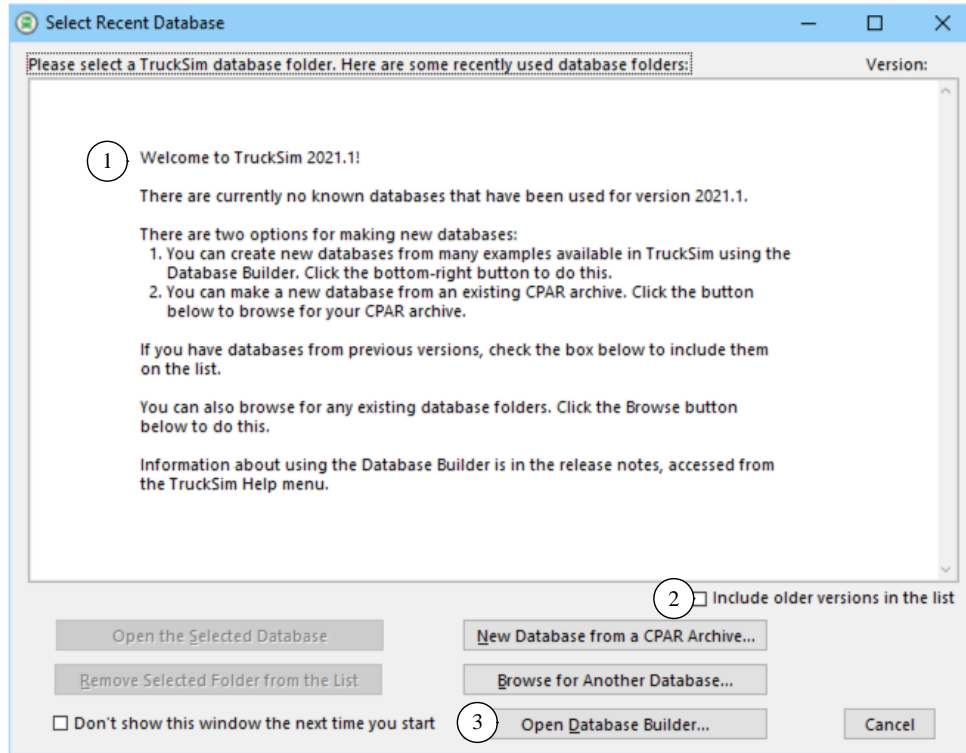
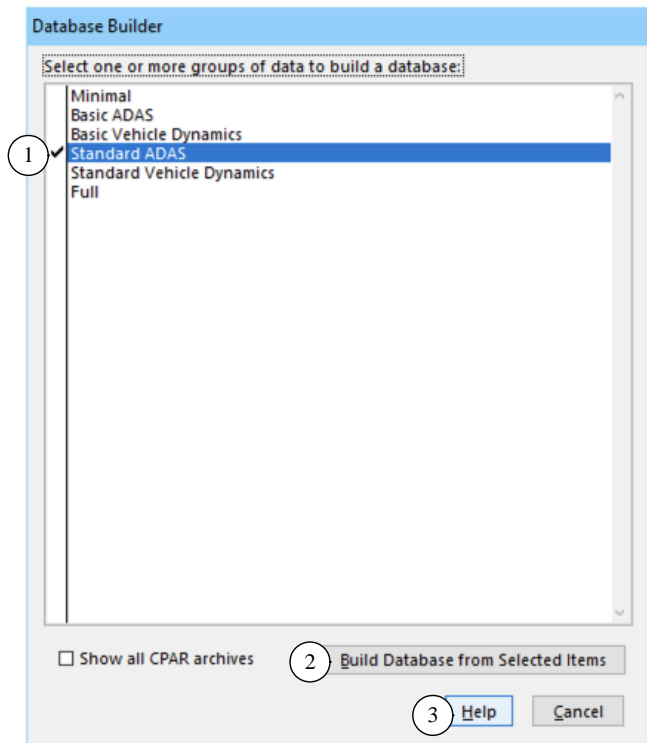
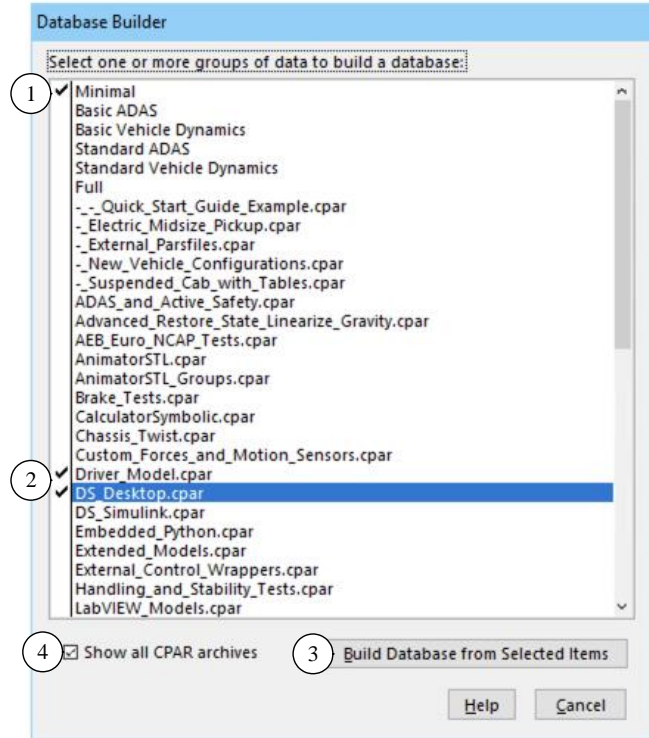

Figure 1. Recent Database window shown when opening a new version of TruckSim.
Figure 2. The database builder window showing only predefined database options.
Figure 4. Display when CPARs are also shown.
When opening recent versions of TruckSim, a window appears listing database folders that are known for the current version. This window (Figure 1) has been extended for 2021.1, providing access to a new tool: the Database Builder.
To access examples for 2021.1 when you start TruckSim, click the button **Open Database Builder** (3) (Figure 1) to bring up the Database Builder window (Figure 2). When a group of data is selected (1), the button **Build Database from Selected Items** (2) becomes active. The **Help** button (3) opens a PDF document that describes the options. (The Help document is also available from the TruckSim **Help** menu in the **Release Notes** submenu.)
**Note** Three of the first four options in the **File** menu correspond directly to three of the buttons in the **Select Recent Database** window (Figure 1).
Figure 2 shows that TruckSim 2021.1 provides six predefined databases. Table 2 provides a little more information about these options.
None of the six basic options shown in Figure 2 include specialty examples, such as RT HIL systems, software development kit (SDK) examples, examples using external tire models, etc. To access these, and other specific categories of examples, check the box **Show all CPAR archives** (3) (Figure 4) to see the entire collection. Notice that many CPAR archives are available, shown below the six database options described in Table 2.